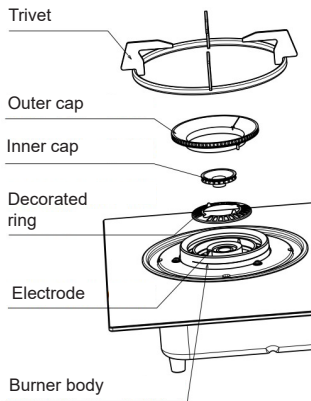

Fig. 13
- When cleaning the burner, ensure that all the flame ports, injector hole and other holes are free of any blockage. (Fig 13,14)